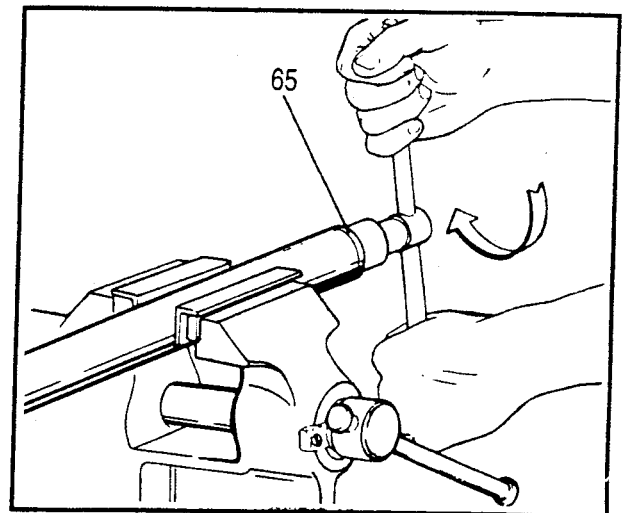

Figure 5-12. Fork Cap Removal
3. See Figure 5-12. Unscrew the fork cap (65).